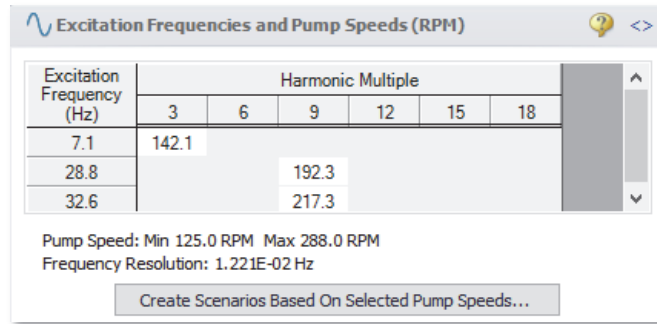

Figure 6.17 Pump RPM Evaluation Panel with Excitation Frequencies and their Harmonic Multiples Displayed in the bottom of the Quick Access Panel.
3. Select "Evaluate Excitation Frequency" to add this frequency to the Pump RPM Evaluation panel, which is labeled with "Excitation Frequencies and Pump Speeds (RPM)". Repeat steps 1 through 3 for the local maxima at the frequencies of 28.85 Hz and 7.104 Hz. The panel should now appear as shown in Figure 6.17.